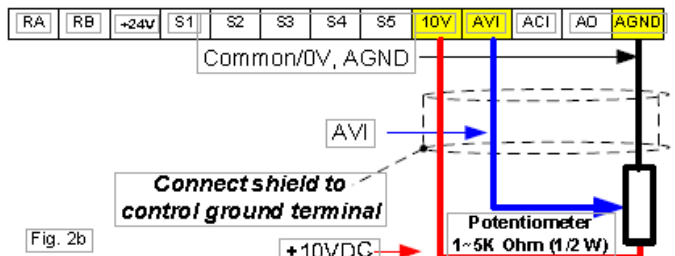

Fig. 2b
- Make the connections as shown below in Fig. 2b.